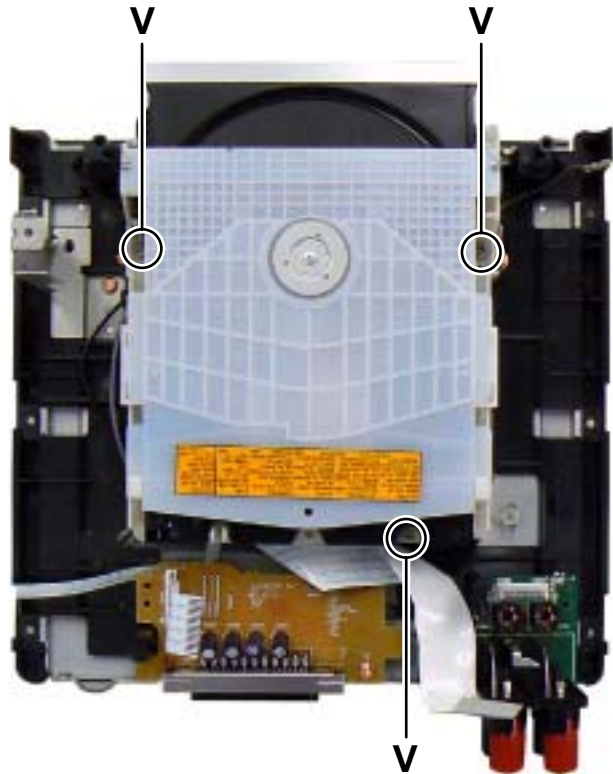

Fig.17
3.1.10 Removing the DVD mechanism (See Fig.17)